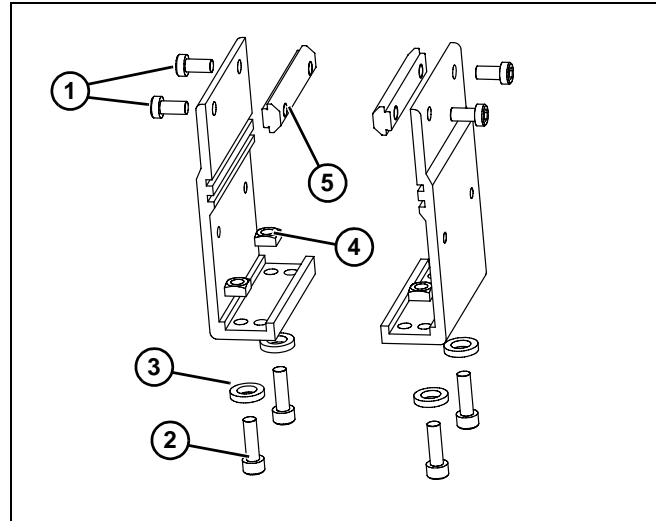
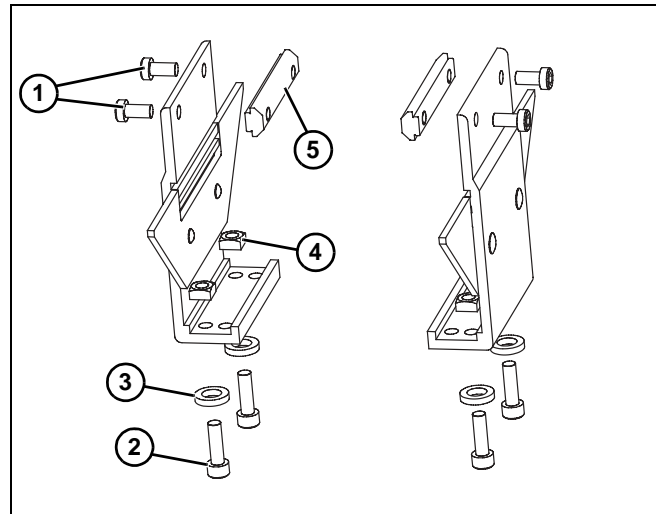
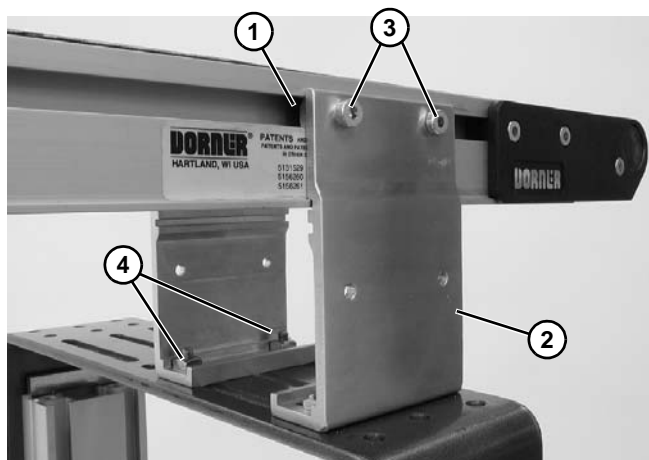

Figure 6
Figure 7
Figure 8
1. Locate brackets. Exploded views shown in **Figure 6** and **Figure 7**.
2. Remove screws (**Figure 6, item 1 and 2**) or (**Figure 7, item 1 and 2**), washers (**Figure 6, item 3**) or (**Figure 7, item 3**), nuts (**Figure 6, item 4**) or (**Figure 7, item 4**), and T-bars (**Figure 6, item 5**) or (**Figure 7, item 5**), from brackets.
3. Insert T-bars (Figure 6, item 5) or (Figure 7, item 5) into conveyor side slots (Figure 8, item 1). Fasten brackets (Figure 8, item 2) to conveyor with mounting screws (Figure 8, item 3).
4. Fasten brackets to support stand with mounting screws, washers, and nuts (Figure 8, item 4).
5. Tighten screws (Figure 8, item 3), and mounting screws on nuts (Figure 8, item 4) to 60 in-lb (7 Nm).